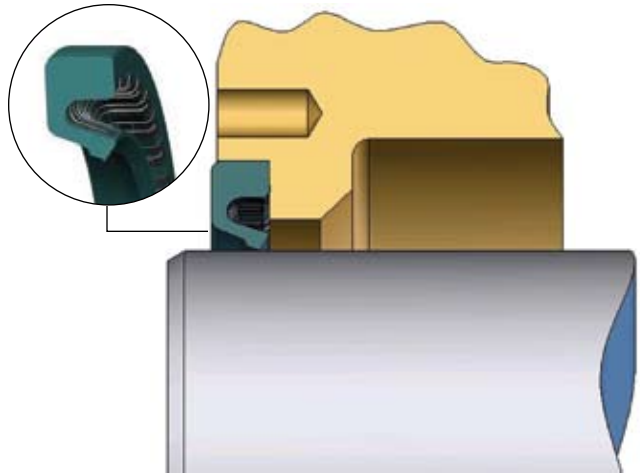

Fig. 67 The seal should slightly protrude from the housing surface
- Once the seal is properly seated in the housing bore, it should protrude from the housing surface by 0.381 mm (0.015 in.), as shown in Fig. 67. The 0.015 in. protrusion is built into the width of the seal. The depth of the bore housing should be machined to the seal width specified on the packaging.